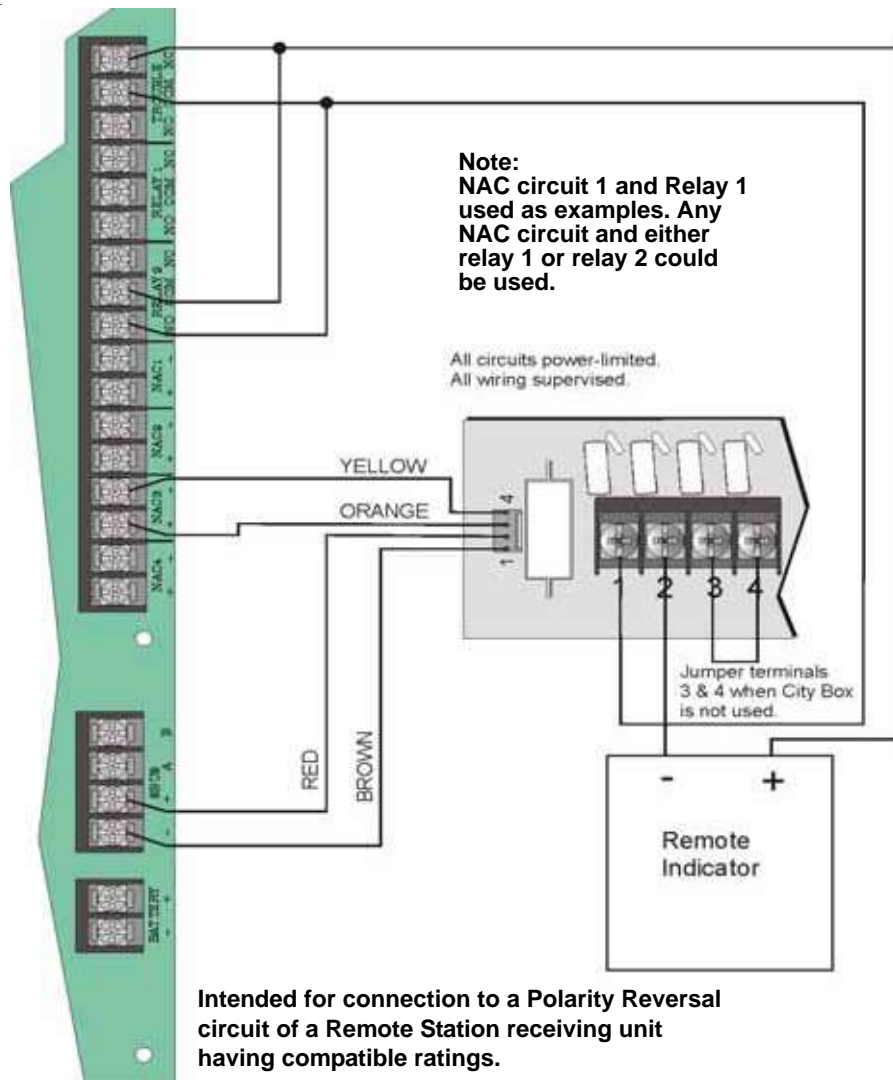

Figure 4-39 Polarity Reversal Connection Using the 5220 Module
2. Wire the 5220 to the control panel using the four-wire pigtail provided as shown in Figure 4-39. This diagram also shows how to connect the 5220 to the remote indicator. Do not install an EOL resistor in the terminals of the NAC circuit used for this application.